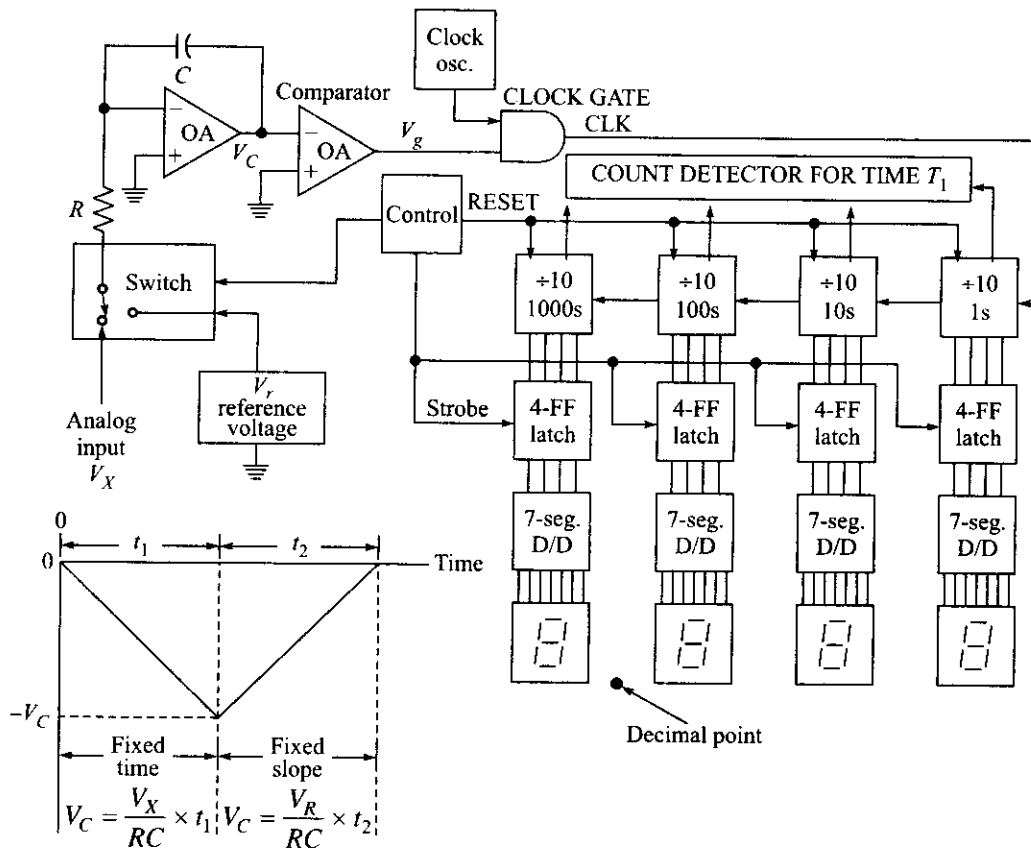

Fig. 12.34 Dual-slope A/D converter
As a concrete example, let's suppose that the clock in Fig. 12.34 is 1.0 MHz, the reference voltage is -1.0 Vdc, the fixed time period t_1 is $1000 \mu\text{s}$, and the RC time constant of the integrator is set at $RC = 1.0$ ms. During the time period t_1 , the integrator voltage V_c , will ramp down to -1.0 Vdc if $V_X = 1.0$ V. Then, during time t_2 , V_c will ramp all the way back up to 0.0 V, and this will require a time of $1000 \mu\text{s}$, since the slope of this ramp is fixed at 1.0 V/ms. The output display will now read 1000 , and with placement of a decimal as shown, this reads 1.000 V.
- 12.23 Design the CONTROL logic for the converter in Fig. 12.34.